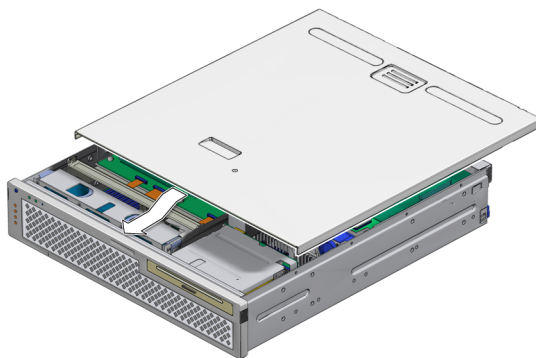

FIGURE 6-5 Installing Top Cover
2. Slide the cover forward until it latches into place (FIGURE 6-5).